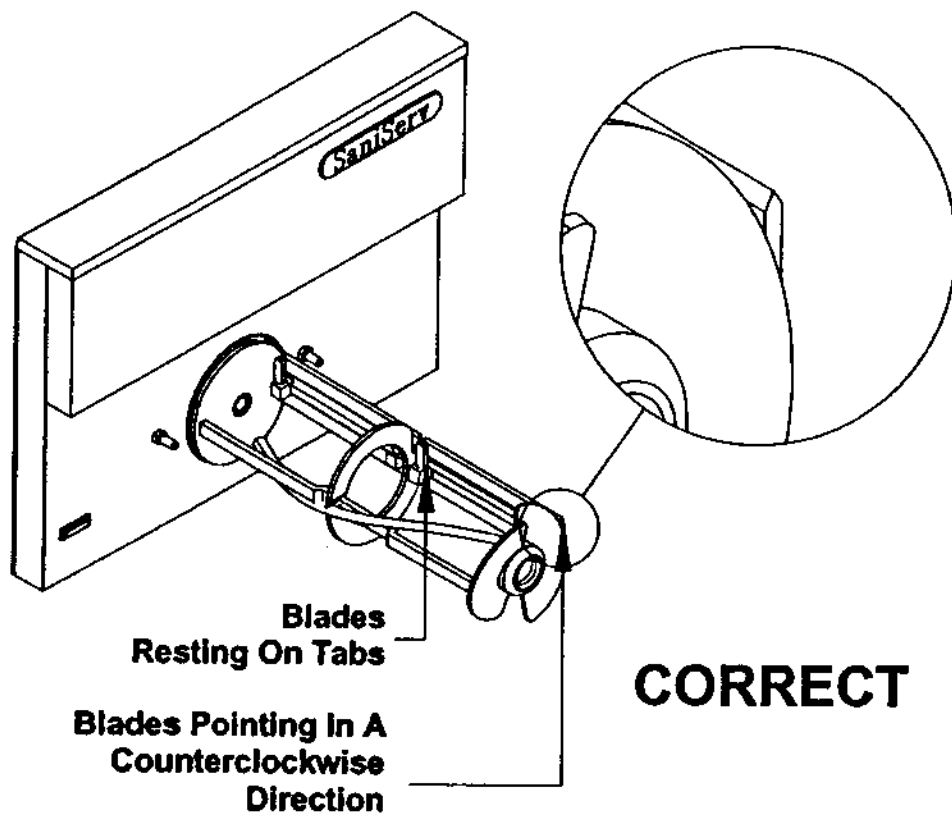
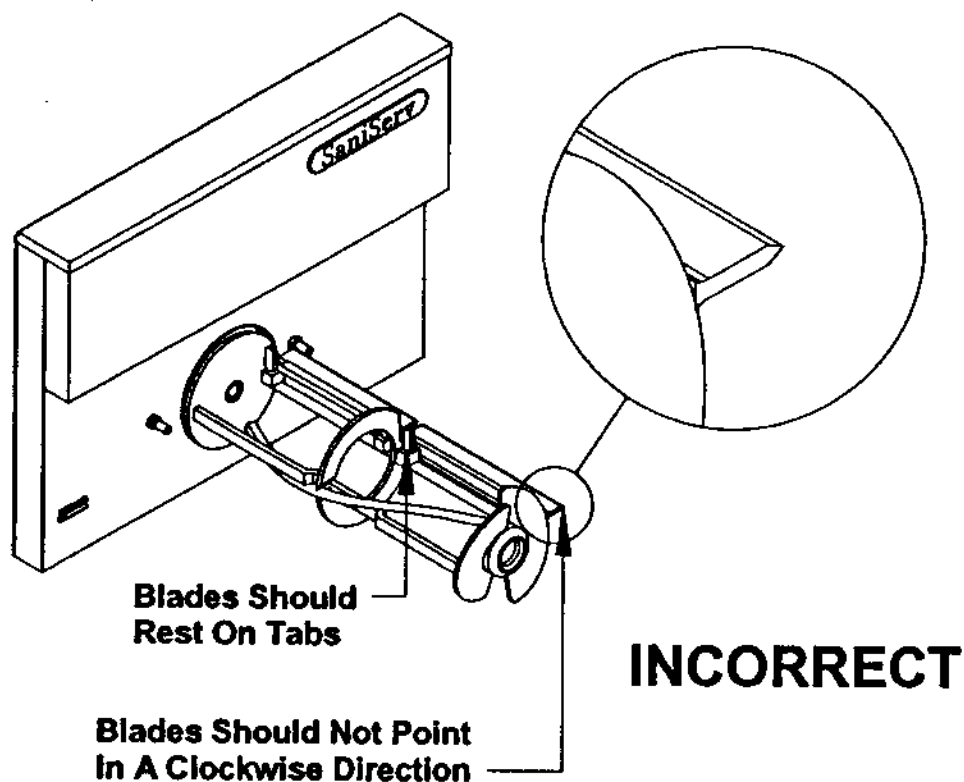

Fig. 15
Fig. 16
e. Insert the dasher assembly into the freezing cylinder as far as possible (Fig. 15) being careful not to damage the scraper blades. Damage will occur to the scraper blades and the dispenser will not operate properly if the scraper blades are installed facing in a clockwise direction (Fig. 16).
Note: The stator rod has been deleted from Fig. 15 and Fig. 16 for clarity only. They must be installed for proper machine operation.
a. Apply a generous amount of lubricant to the shoulders of the dashers and the area of the shafts where the white plastic portion of the assembled rear seal contacts the shafts (Fig. 15). This is easily performed by running a 1/4" bead of lubricant around the shoulder of each dasher.
c. Assemble and install the irreversible rear seals with the rubber portions toward the rear of the freezing cylinders as indicated in Fig. 16.